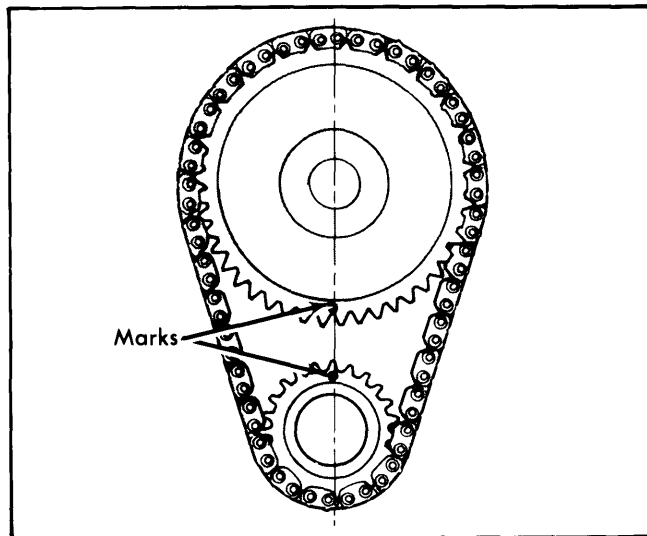

Fig. 10 Timing Chain Sprocket Alignment
**Installation** — To install new crankshaft sprocket, pull into place with a bolt or drive into place with suitable driver and hammer. Install camshaft sprocket and timing chain making sure timing marks on sprockets are aligned. See Fig. 10. Install and tighten sprocket bolts.